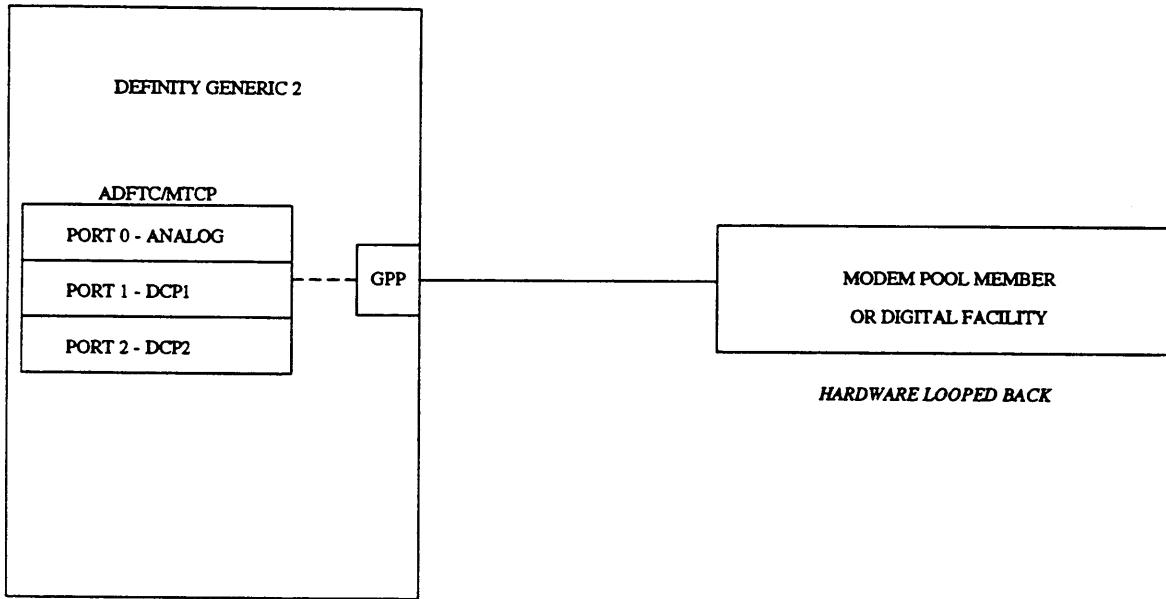

Figure 5-20. Tests 2 and 3 - One Port Modem Pool or Digital Facility Test
- One port originating normal or reverse test - test types 7 and 8 (see Figure 5-20, *Tests 2 and 3- One Port Modem Pool or Digital Facility Test*).